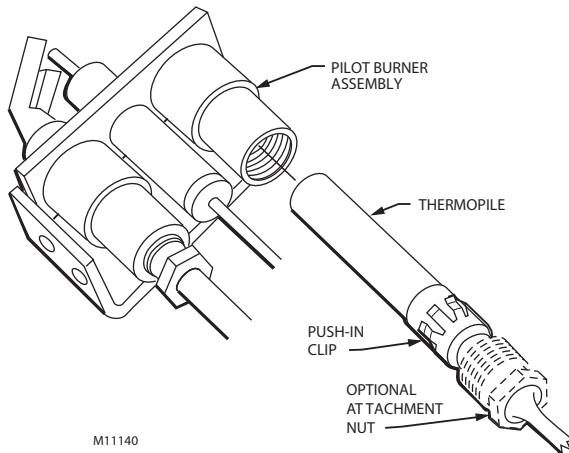
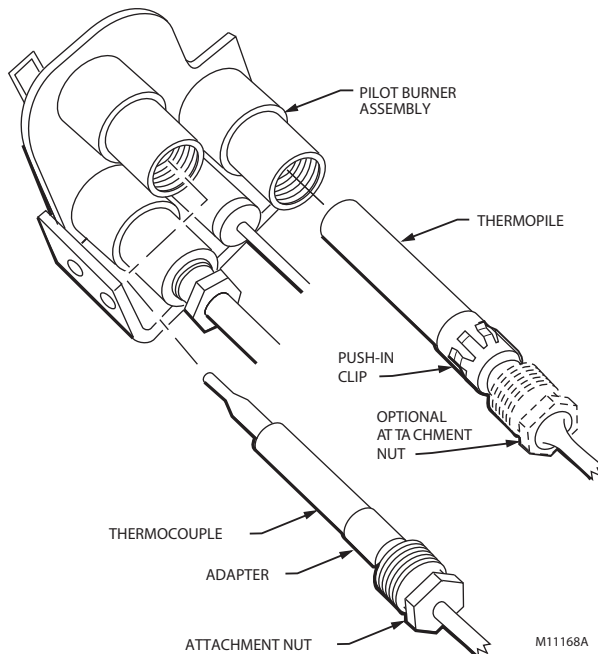

Fig. 20. Installing thermocouple or thermopile
Fig. 21. Installing Q382 thermocouple and thermopile
1. Insert the thermocouple or thermopile tip into the hole or barrel provided beneath the pilot burner. See Fig. 20 and Fig. 21.
1. Insert the thermocouple or thermopile tip into the hole or barrel provided beneath the pilot burner. See Fig. 21.